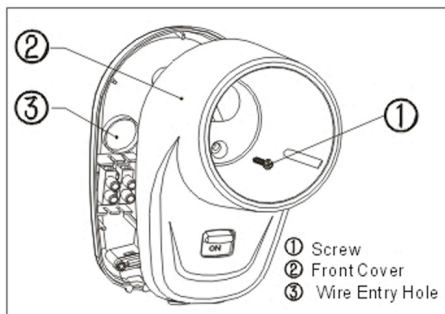

Fig 3.
- 2.1.2 Loosen the screws as per Fig 3, and remove connected wire from the terminal.